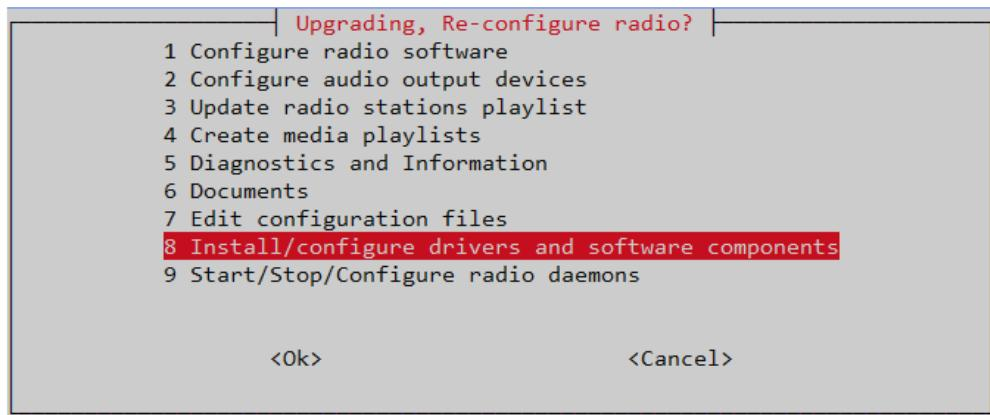

Figure 192 The radio-config menu
- Select option **6 Documents and Tutorials** from the **radio-config** menu shown in *Figure 192 The radio-config menu* on page 133.